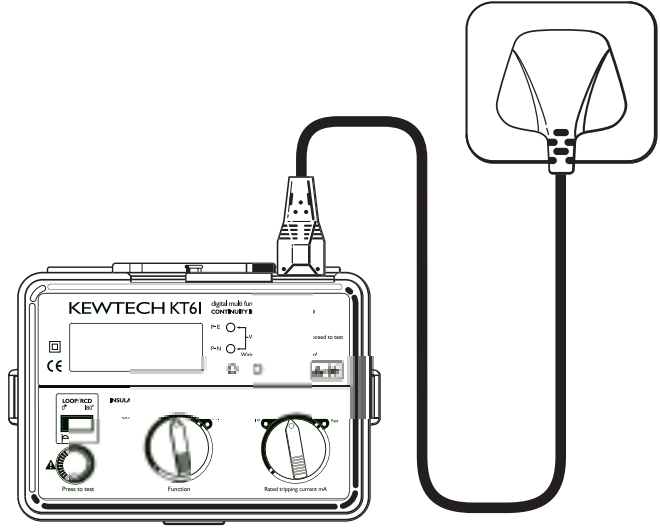

Fig 9
- 3 If testing sockets, connect the plug lead to the KT61 and push the moulded plug into the socket to be tested (see Fig 9).
- 5 Connect the instrument to the RCD to be tested either via a suitable socket outlet (see fig 9) or using the test lead set (see fig 10).